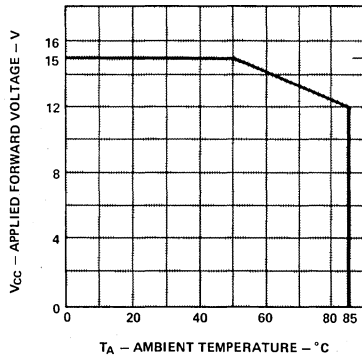

Figure 4. Maximum Allowed Applied Forward Voltage vs. Ambient Temperature  $R_{\theta_{JA}} = 175^{\circ} \text{C/W}$ . 12 Volt Devices
3. Derate from  $T_A = 50^\circ\text{C}$  at 0.086V/°C, see Figure 4.